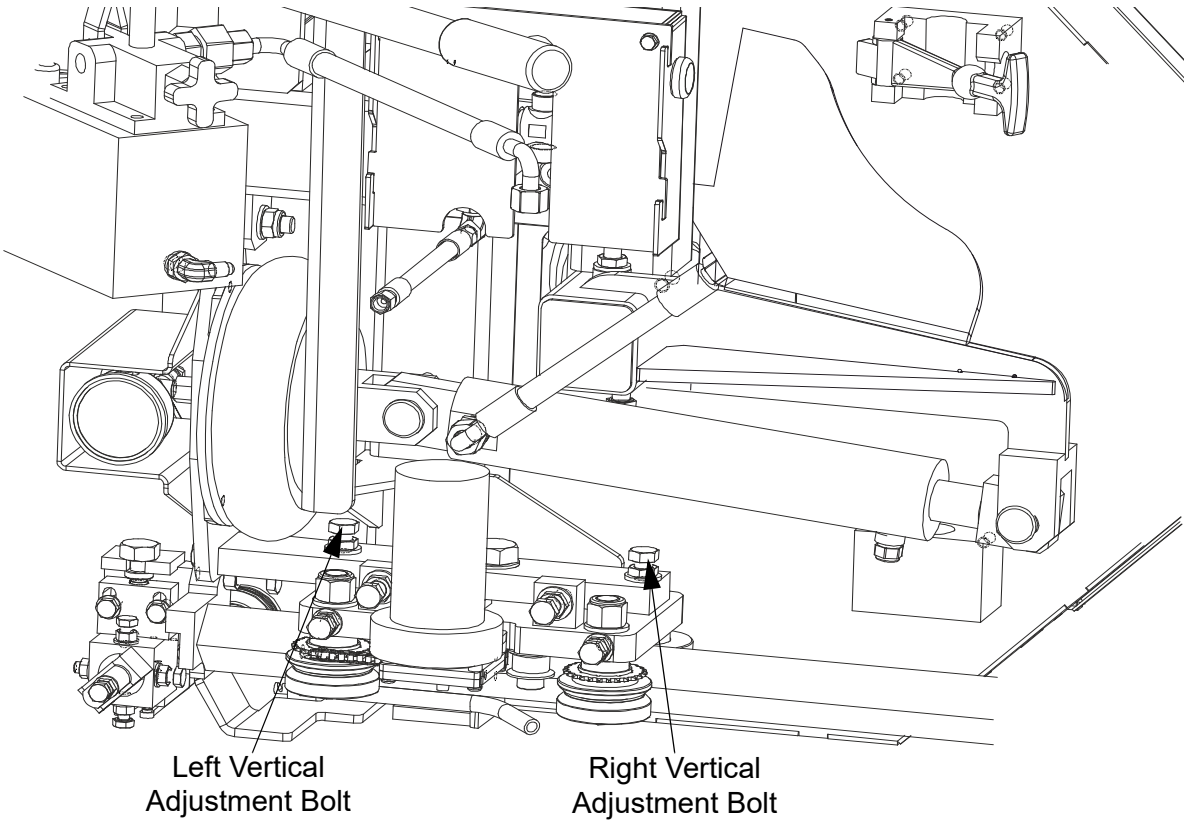

FIG. 5-7
**See Figure 5-7.** Loosen the vertical adjustment bolt jam nuts. To tilt the blade guide arm down, loosen the right bolt and tighten the left bolt. To tilt the blade guide arm up, loosen the left bolt and tighten the